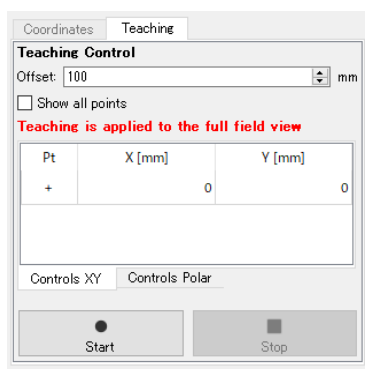

Figure 7-49 Teaching setting
- Click the “Start” button (Figure 7-49) to start recording the background data. Recording will continue until the stop button is clicked